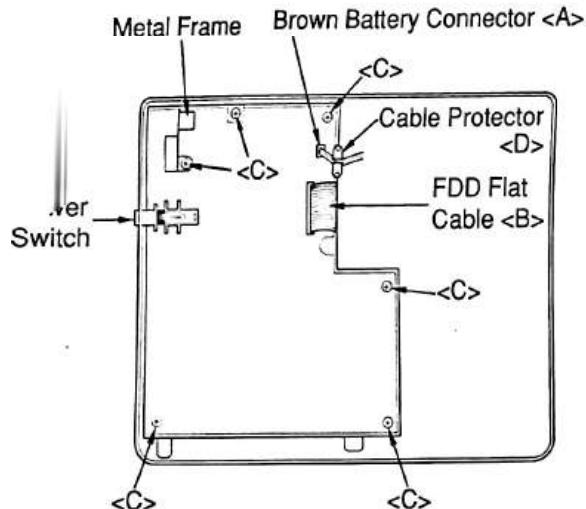

Figure 14
(3) Detach the brown battery connector <A> as shown in Figure 14.
(4) Detach the FDD flat cable  by gently pulling it up as shown in Figure 14.
(5) Remove six screws <C> (3Øx8) fixing the main PCB as shown in Figure 14.
(6) Remove the cable protector <D> from the bottom shield plate and take out the brown battery connector from the cable protector as shown in Figure 14.
(7) Gently push the power switch inward as shown in Figure 14.
(8) Lift up the main PCB from the right end by holding the metal frame fixing serial & parallel connectors.